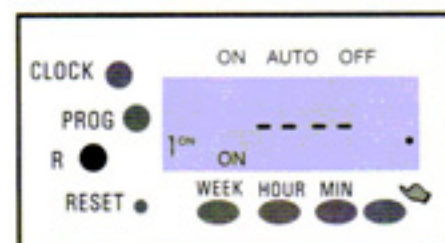

Figure 6
- 2.1 Press **PROG** to enter program mode. The display should show "1 ON" (See Figure 6).
Please press "R" for canceling the program settings (See Figure 6) and press it again to return to the pervious weekday setting.